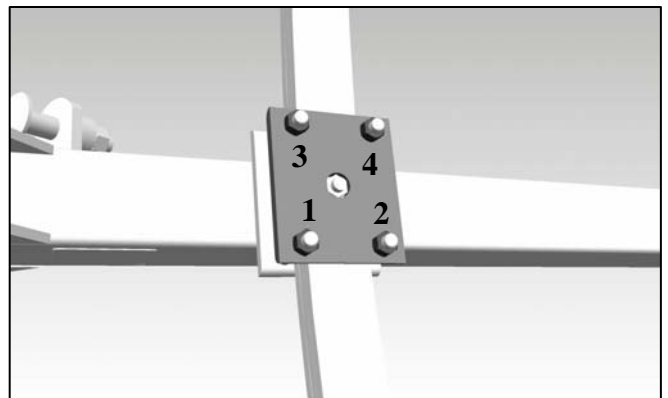

Figure 3
- a. Torque to 35 ft-lbs in the sequence described in Figure 3.
- b. Torque to 53 ft-lbs in the sequence described in Figure 3. Double check that the torque has been attained by following the sequence twice.